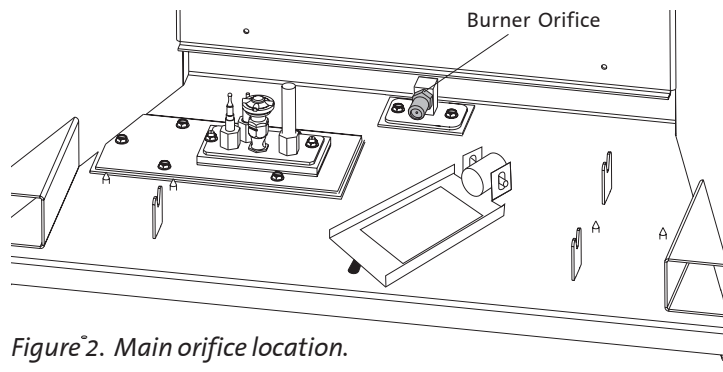

Figure 2. Main orifice location.
- 2. Loosen the wingnut on the Air Shutter Stem,** located under the center of the firebox floor, and push the stem back as far as it will go. Disengage the burner assembly from the Air Shutter by lifting it up and back, out of the firebox. Swing the Air Shutter out of the way to access the burner orifice. Fig. 2.